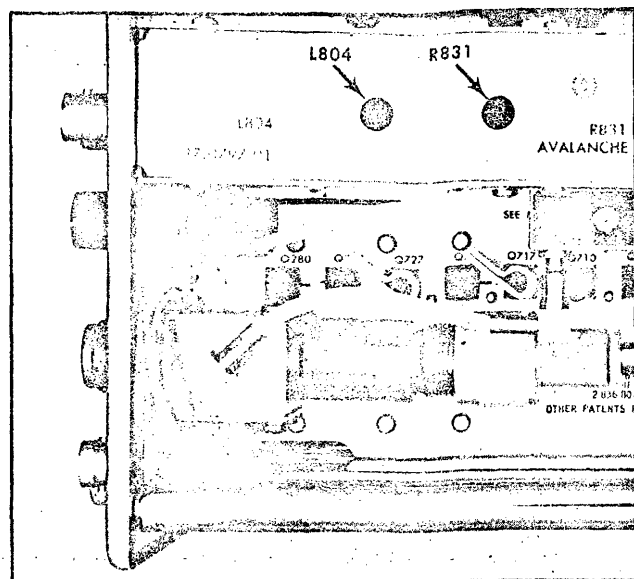

Fig. 6-17. Phase-lock circuit adjustments.
b. With the INT 1 MHz REF FREQ switch in the OFF position, depress the LOCK CHECK button and adjust the Avalanche Volts adjustment R831 (Fig. 6-17) clockwise until avalanche occurs, then ccw from this point about $\frac{1}{8}$ turn. Free running avalanche appears as a wide, noise trace or a definite increase in the noise level on the trace. See Fig. 6-18. Turn the adjustment $\frac{1}{8}$ turn counterclockwise from the free running state.